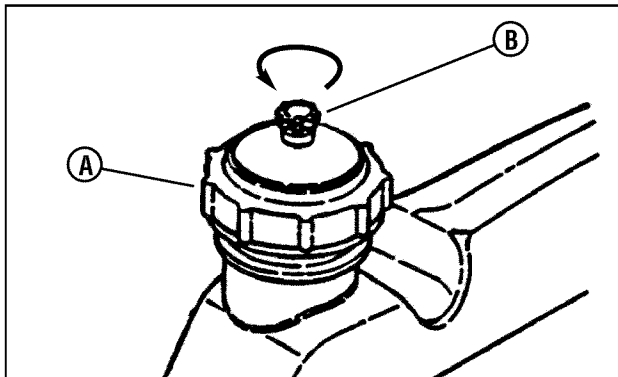

Figure 2: Fuel filler cap
8. Add fuel to the fuel tank after pushing the Rear Engine Rider outside where fumes can dissipate. Make sure the fuel filler cap (A, Figure 2) is tight, and the vent (B) is open after refueling. Refer to the engine manual for fuel specifications.
1. Open the vent (B, Figure 2) on the fuel filler cap (A) by turning counterclockwise.
- Open the vent (B, Figure 2) on the fuel filler cap (A) by turning counterclockwise.